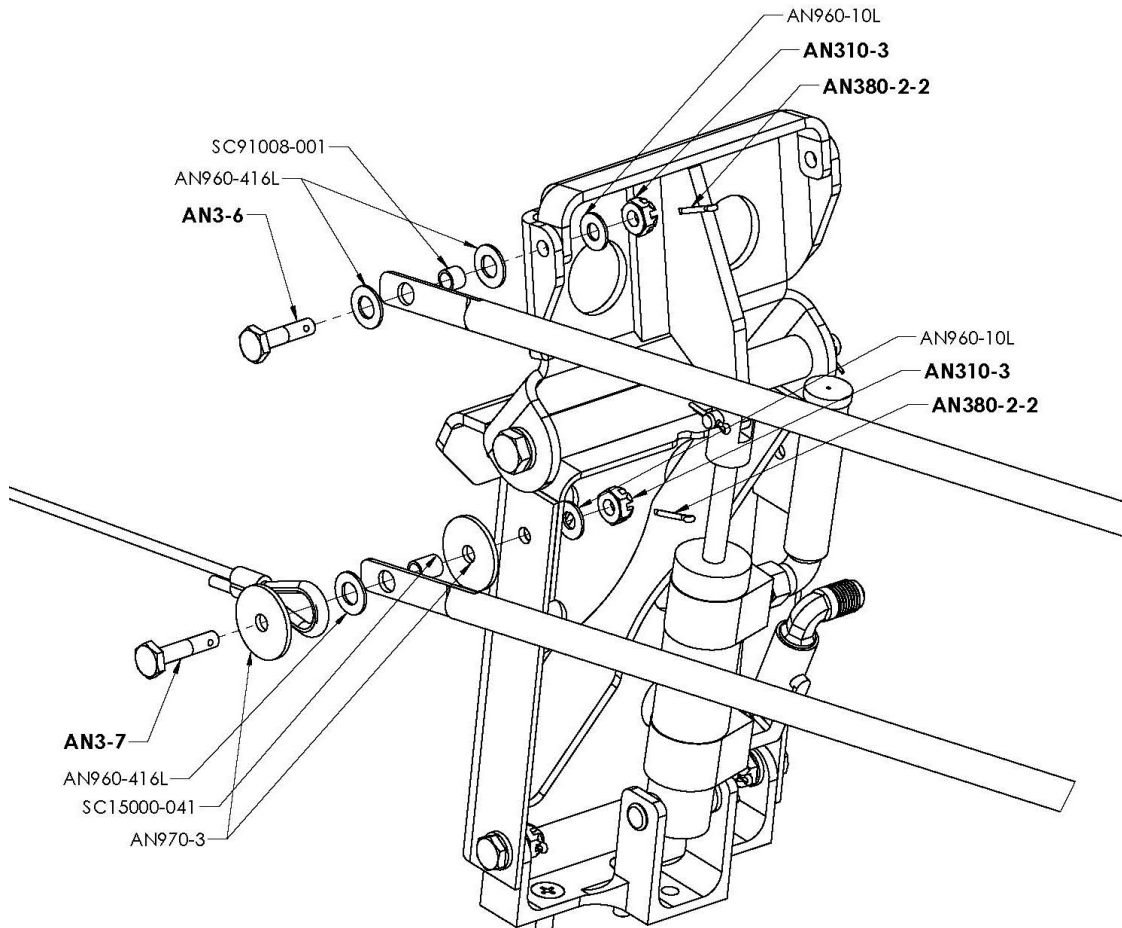
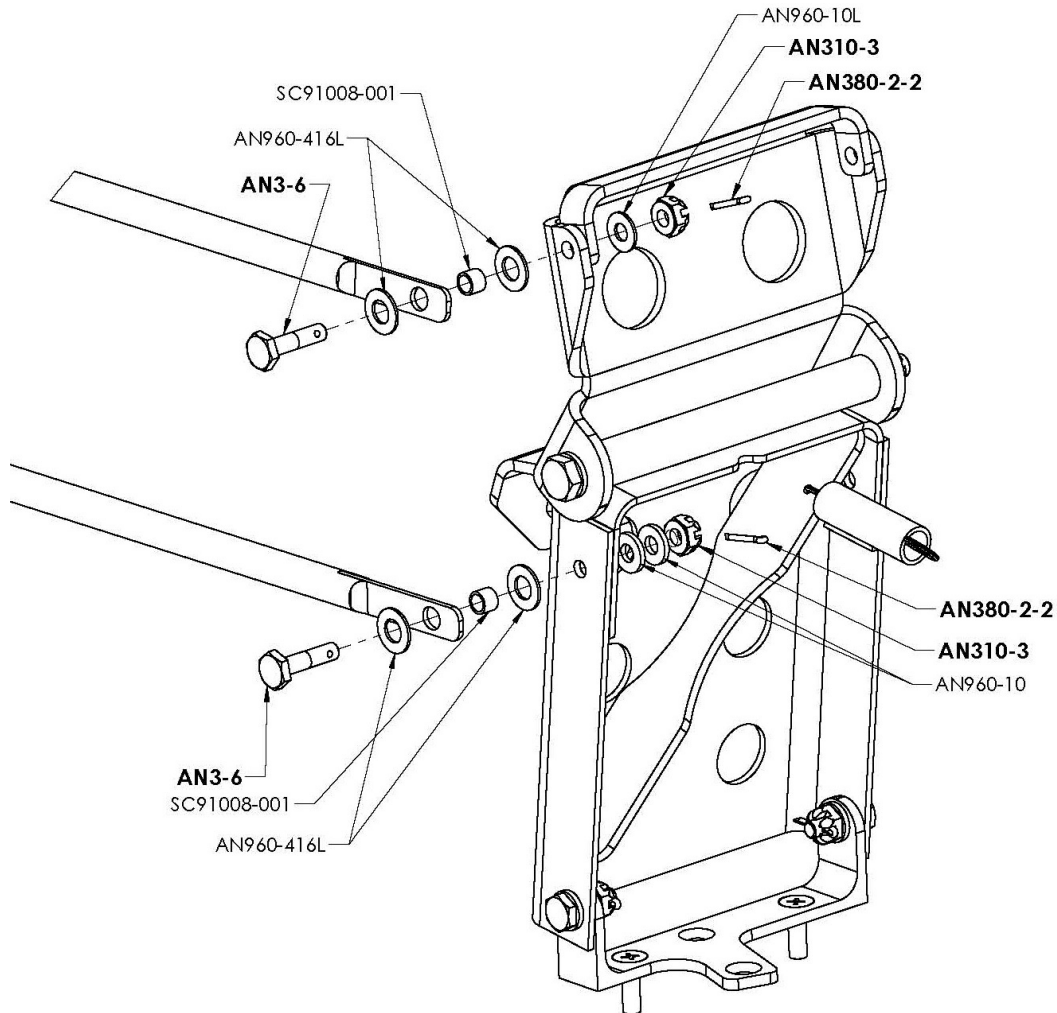

Figure 2: Rear Rudder Pedal Detail (Right-Side Shown)
Figure 3: Front Rudder Pedal Detail (Right-Side Shown)
2. Replace existing AN bolts and nylon lock washers with supplied AN bolts, castle nuts, and cotter pins. Refer to Figure 2 and Figure 3 for hardware locations. Each